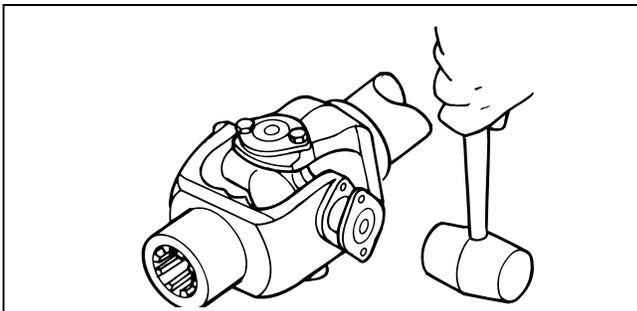

Figure 5.3
- Hold the cross. Use a copper or brass hammer to lightly tap the bearing cup completely into the yoke bore. Figure 5.3.